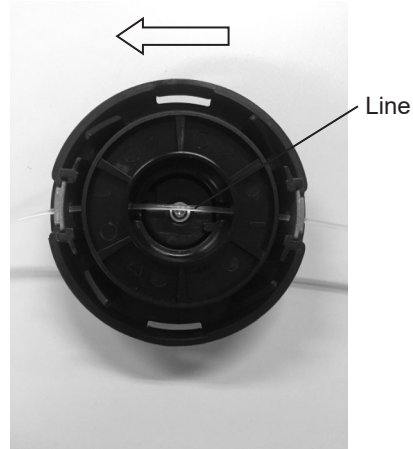

Fig. 2
- Insert the line through all four holes. Pull the line until there is an equal length of the line on each side of the spool. (See Fig. 2)